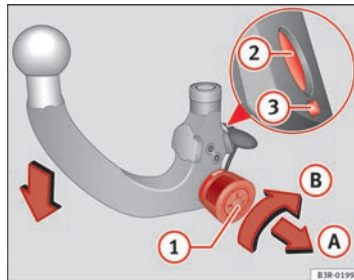

Fig. 169 Removable towing bracket: Setting the spring mechanism to the "ready" position
- Insert the key **(1)** ⇒ Fig. 169 in the lock on the knob and turn it towards the red marking.